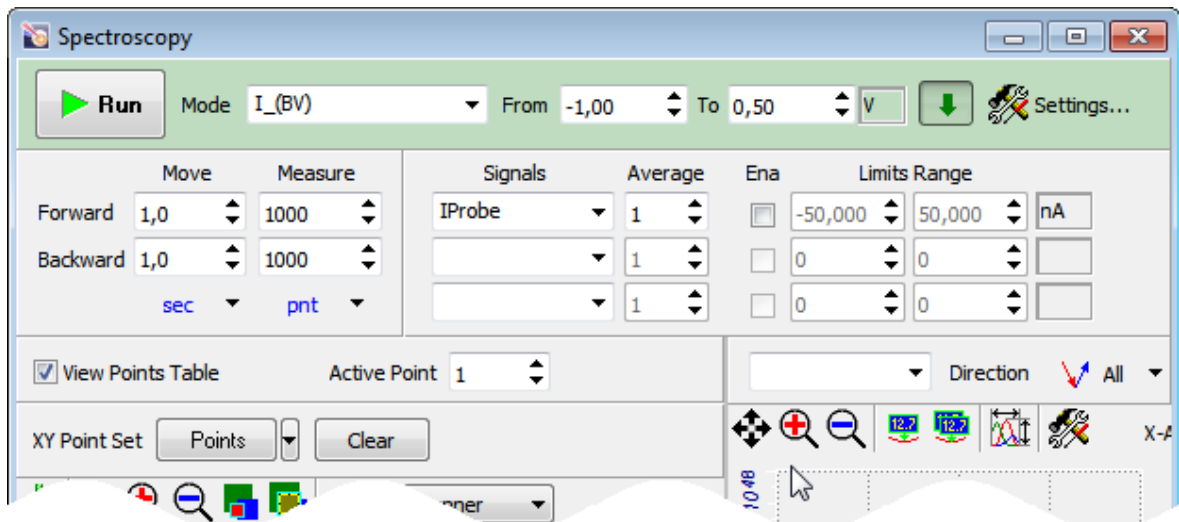

Fig. 10-35. Spectroscopy
3. In the **Mode** drop-down list of the Spectroscopy parameters panel, select $I(BV)$ (Fig. 10-35). Verify that the **IProbe** signal is selected as a measured one in the **Signals** list. Redefine the list of measured signals as desired.